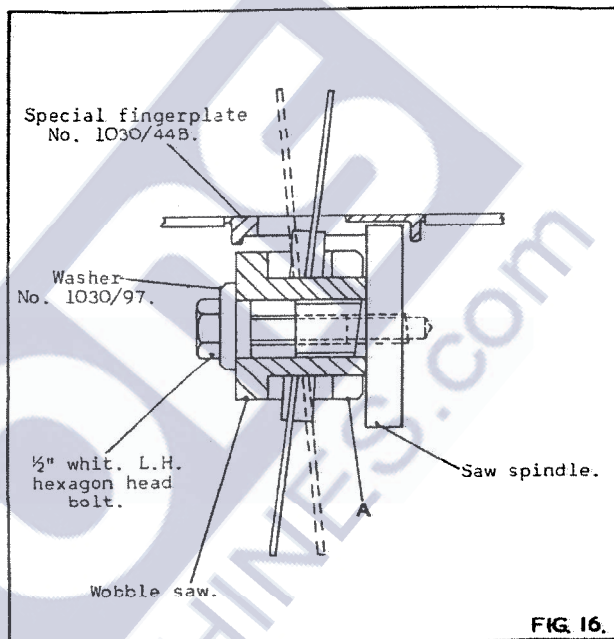

FIG. 16.
3. Fit wobble saw to saw spindle as shown in Fig. 16, and secure to saw spindle by means of the 1/2" whit. left hand thread hexagon head bolt supplied.